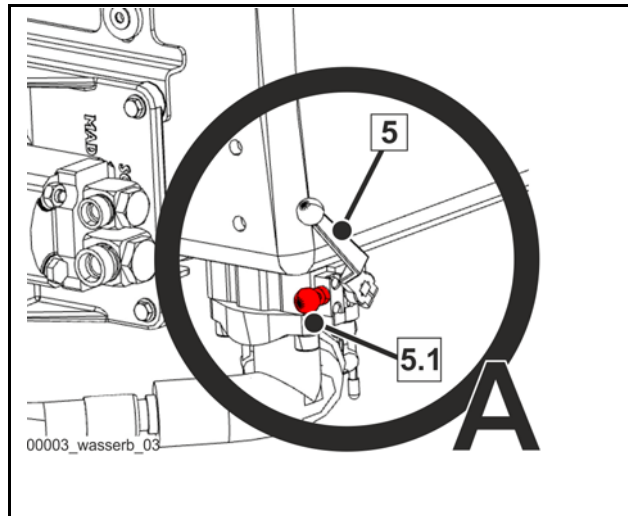

Fig. 483
- Loosen the fuse (5.1) (**Fig. 483**) on the water case and lock the connection to the water case by switching the ball valve (5) (**Fig. 483**).
- Before restarting the HPC, do not forget to switch the ball valve (5) (**Fig. 483**) on the water case to the “Operating position”.